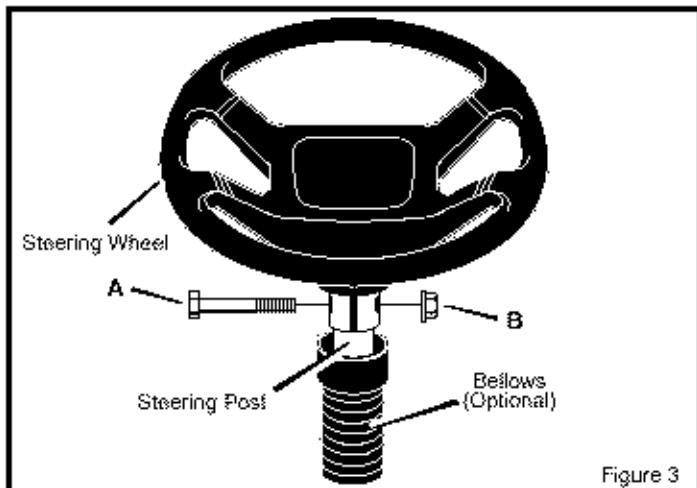

Figure 3
2. Some models have an **optional bellows**. Slide the bellows over the steering post. Make sure the collar of the bellows is on top (Figure 3).